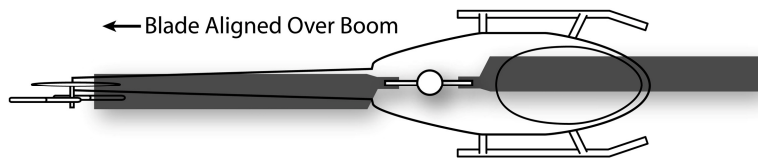

Figure 12.1 – Cyclic Aileron (Roll) Phasing
- 2) Align a blade along the fuselage, pointing over the nose and tail of the helicopter as in Figure 12.1 below:
NOTE: The aileron control, not the elevator control, changes the main rotor blade pitch when the main rotor is aligned as shown in Figure 12.1 above. This is normal and is true for both flybarless and non-flybarless helicopters.